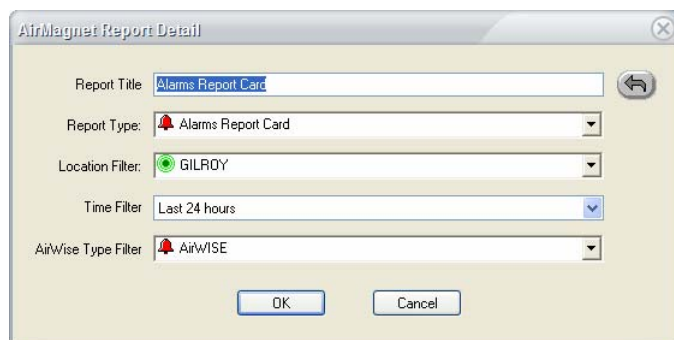

Figure 11-3: Modifying contents of a report
- 1) Right-click the chapter of interest in a report book, and select Properties from the drop-down list. The AirMagnet Report Detail dialog box appears. See Figure 11-3.